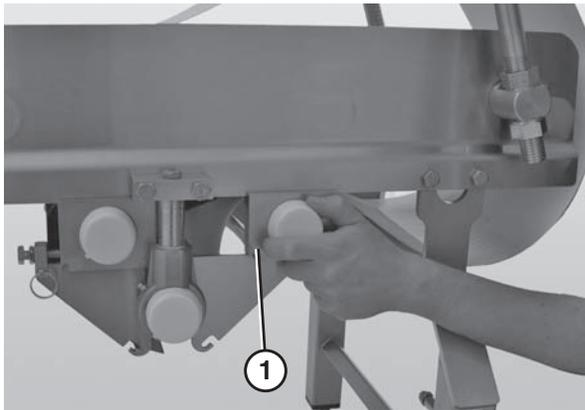

Figure 47
- Slide the tension spindle assembly (**Figure 47, item 1**) out of the housing.